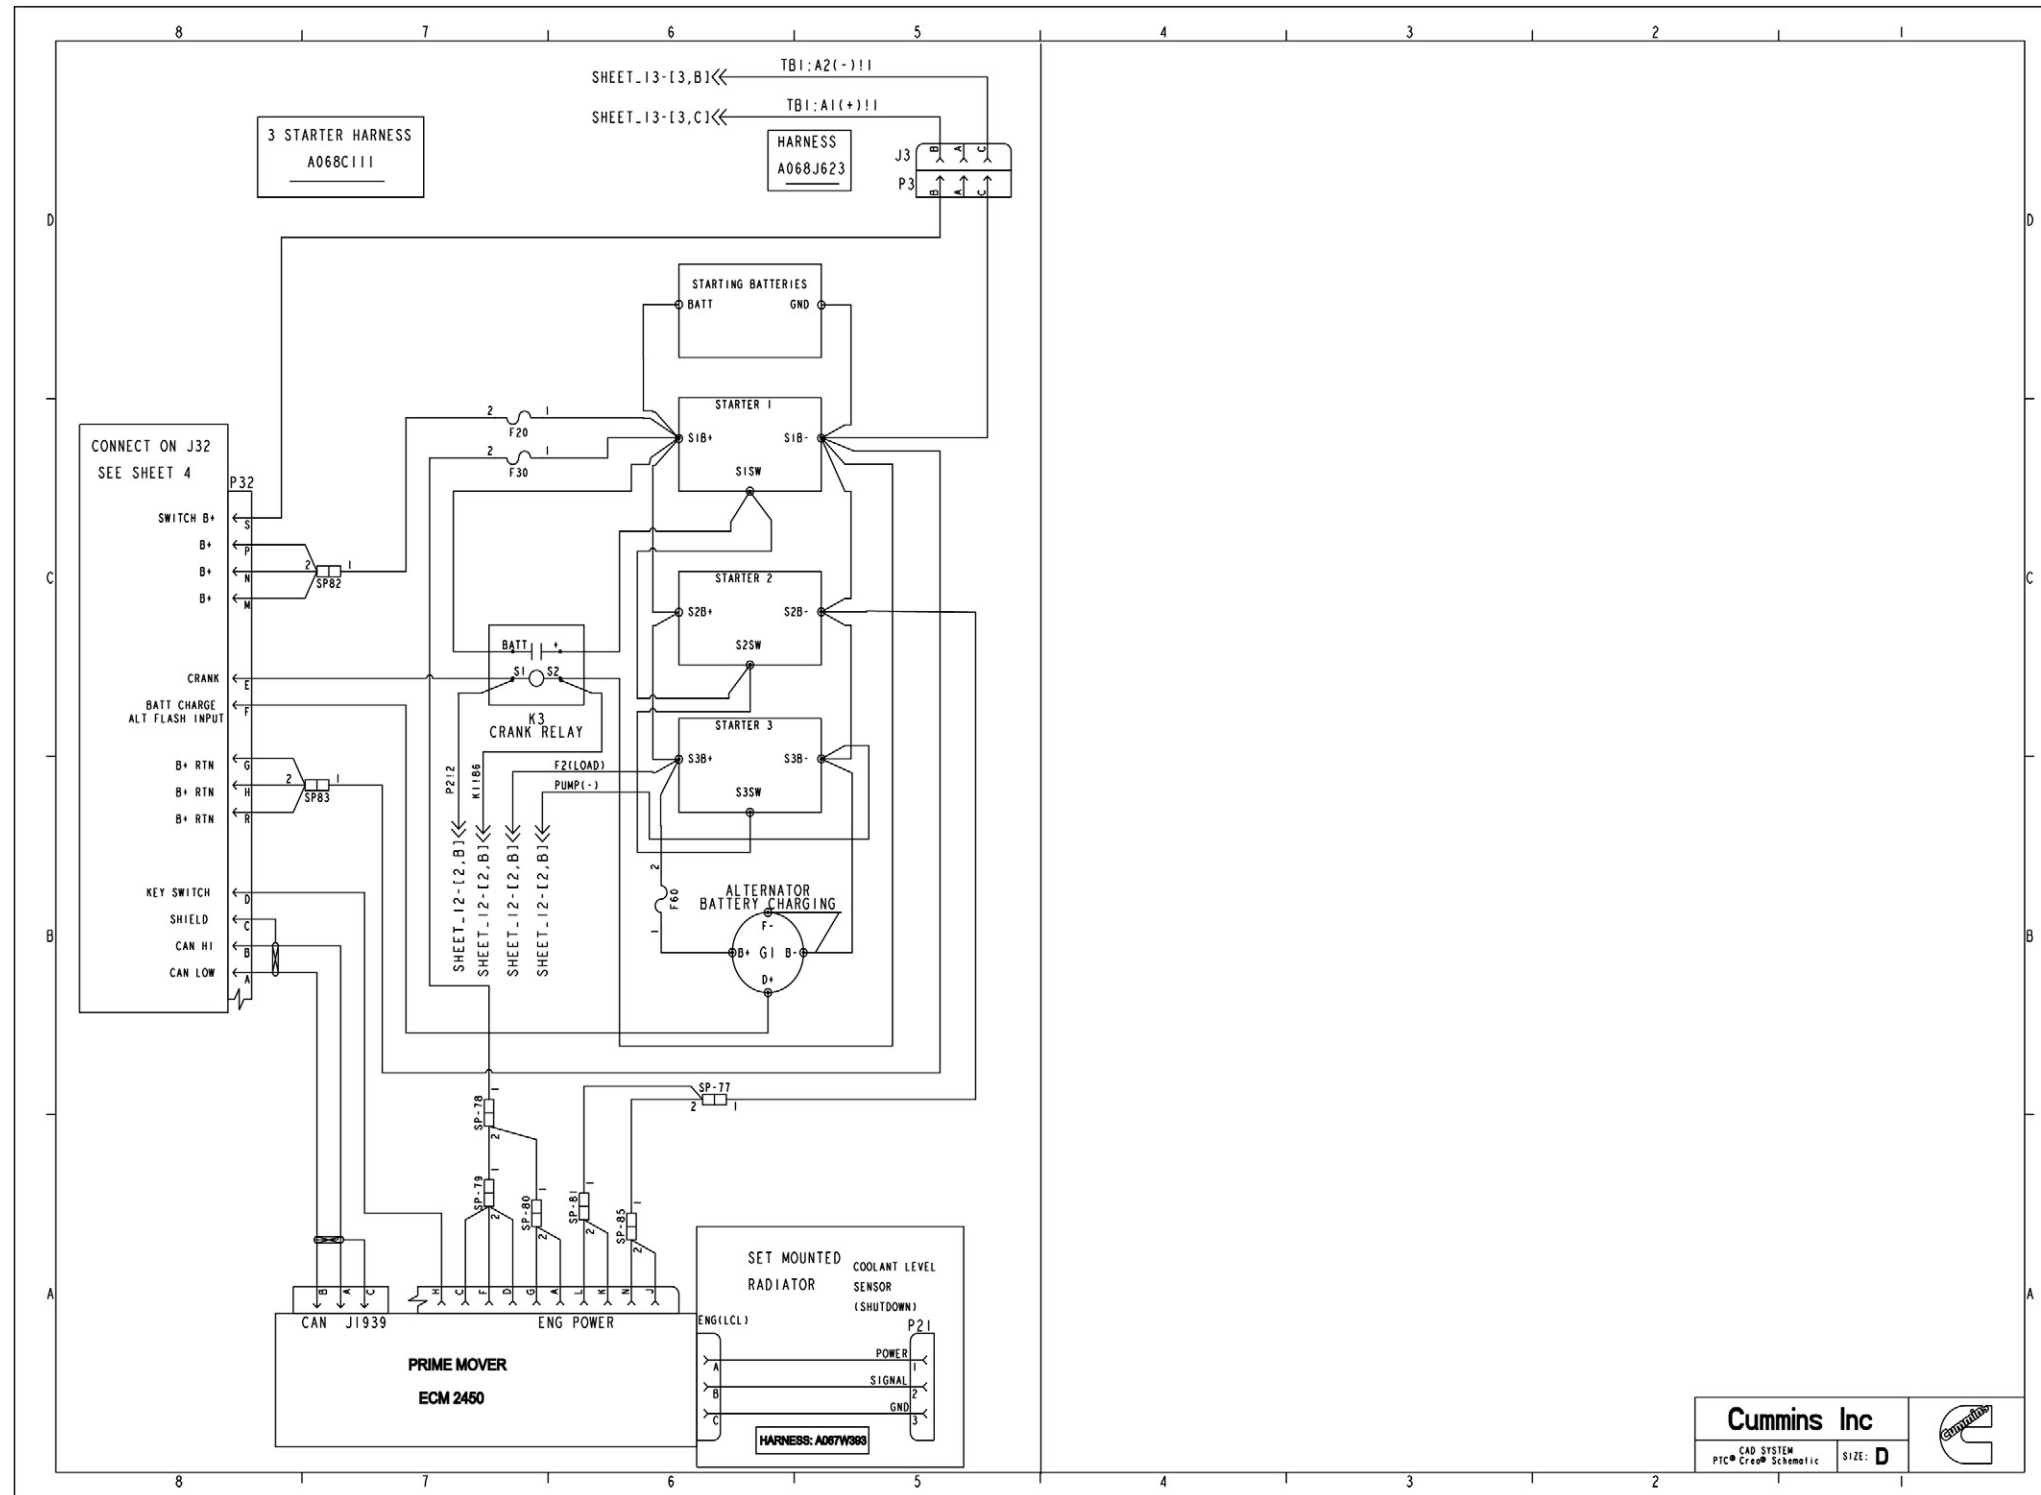

FIGURE 60. WIRING SCHEMATIC (SHEET 5)
- Figure 60. Wiring Schematic (Sheet 5) 115